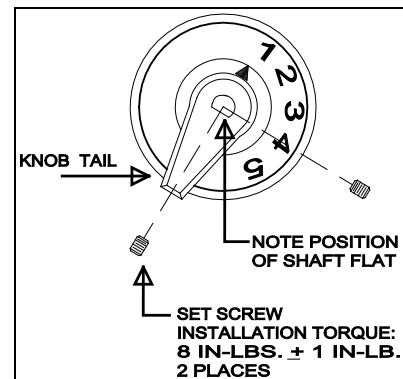

Figure 2. Knob Installation
2. Tighten the set screw at the tail end of the switch. Note the position of the shaft flat with respect to the tail of the knob. See Figure 2.